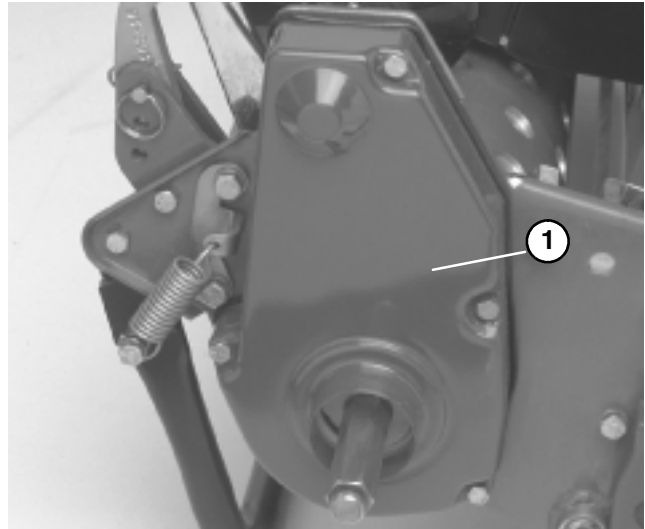

Figure 35
A. Remove belt cover mounting screws and belt cover to expose belt (Fig. 35).